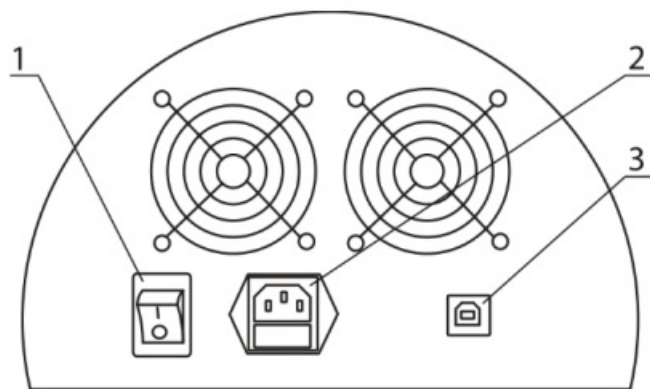

Figure 1. Rear panel of the unit
- Connect the power cable to the socket on the rear side of the unit (fig. 1/2);
- Connect the USB data cable to the port on the rear side of the unit (fig. 1/3) and to the personal computer;